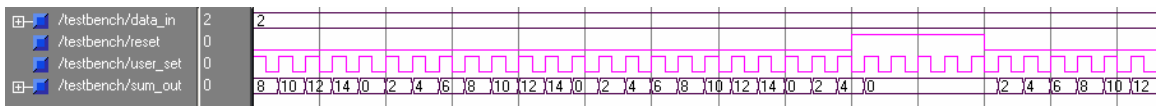

Figure 17; Simulation of the accumulator.
8. Run behavioral simulation; Highlight the file accumulator\_tb.vhd in the **Sources in Project** window, expand **ModelSim Simulator** and double click on **Simulate Behavioral Model** in the **Processes for Source** window. You should get a waveform similar to figure 17. Make sure you answer the questions corresponding to this step in your final report in order for you to understand how the accumulator works.